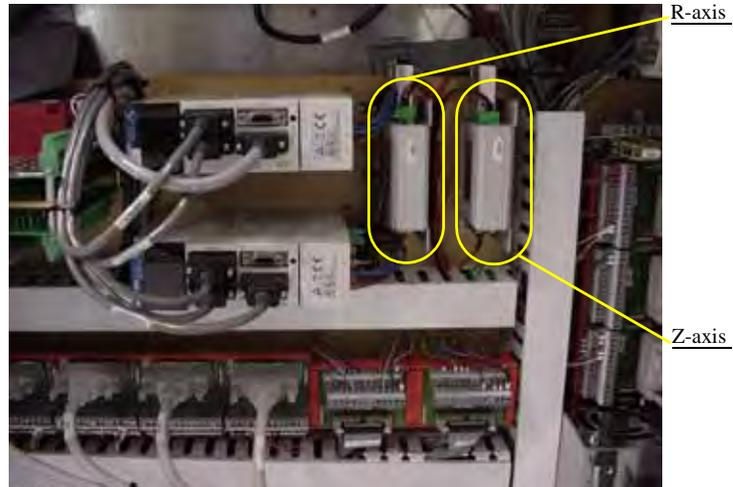

Figure 5-7—Z-axis and R-axis servo motor amps
- 1b) Open the right side cabinet door and locate the R-axis and Z-axis servo motor amps. See *Figure 5-7*.